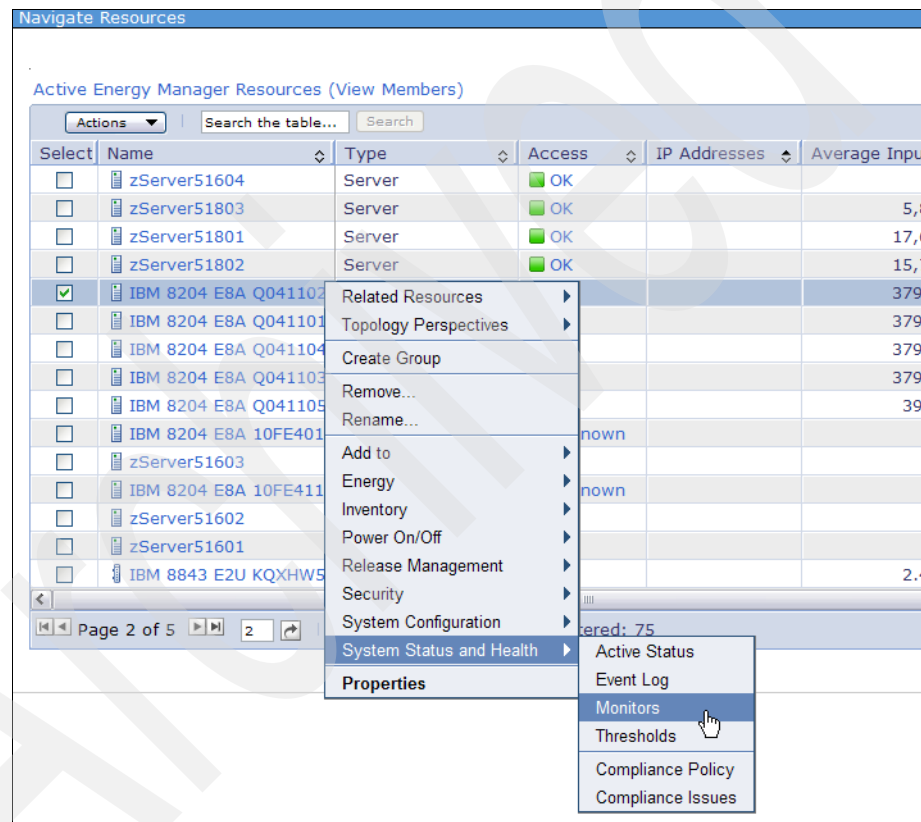

Figure 6-59 Viewing monitors for an Active Energy Manager resource - 1
2. On the Navigate Resources display, right-click the Active Energy Manager resource with which whose monitors you want to work, and then select **System Status and Health** → **Monitors** (Figure 6-59).